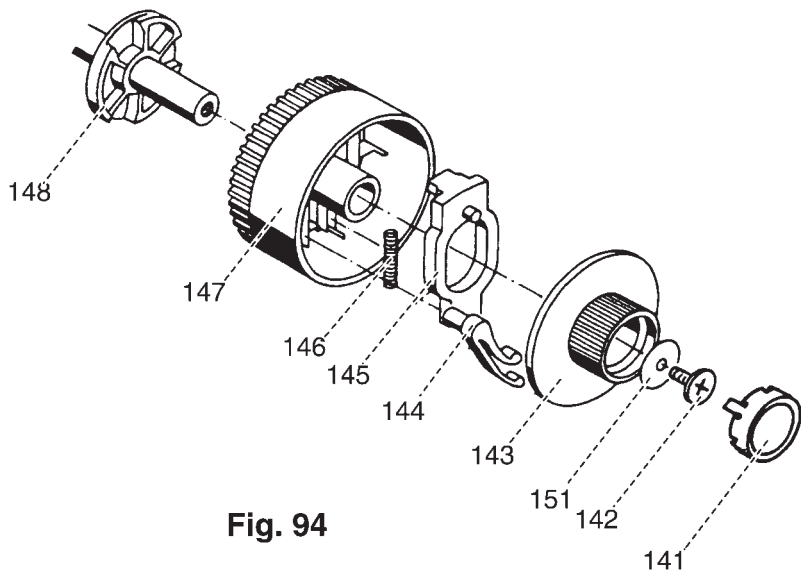

Fig. 94
- Remove plastic cap 141 using clearance gauge 00-880 133-01 (fig. 94).